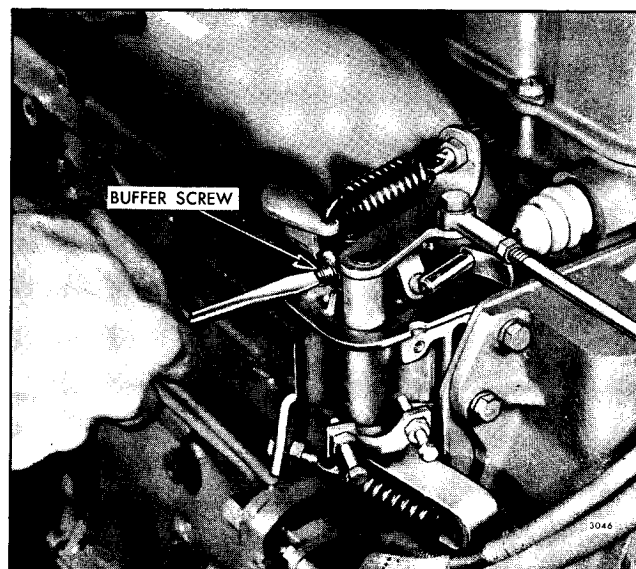

Fig. 7 - Adjusting Buffer Screw
1. With the engine running, screw in the buffer screw, see Fig. 7, until the spring just contacts the governor operating shaft lever and the roll is eliminated.